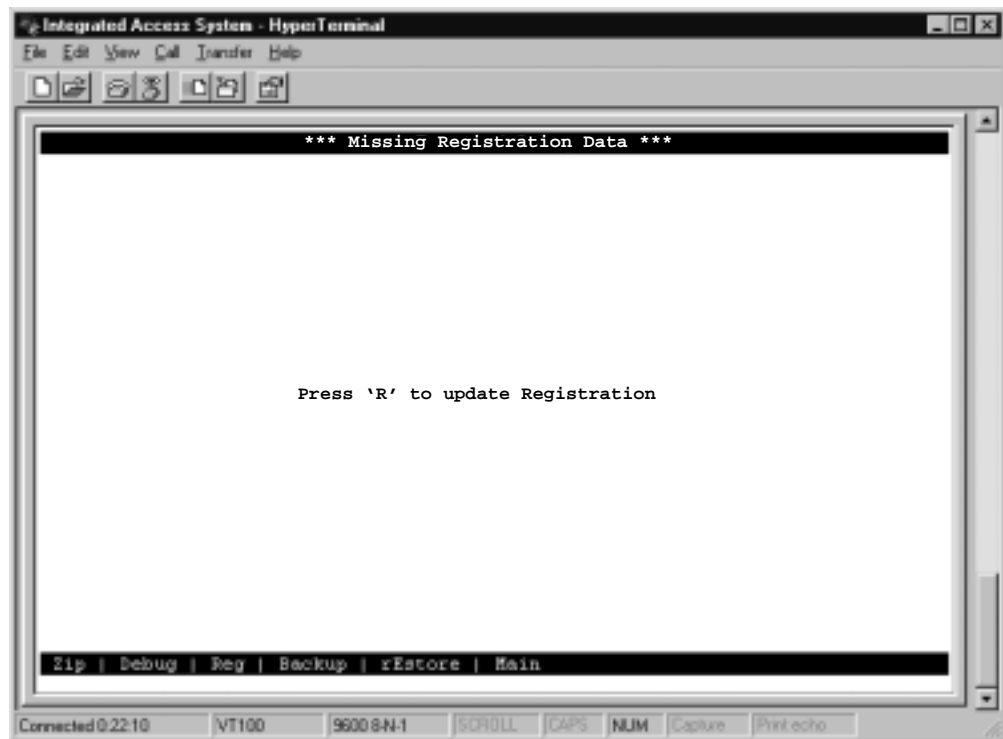

Figure 5-1. First Time Registration Screen
4. Press the RETURN key. The Registration Screen in Figure 5-1 appears.